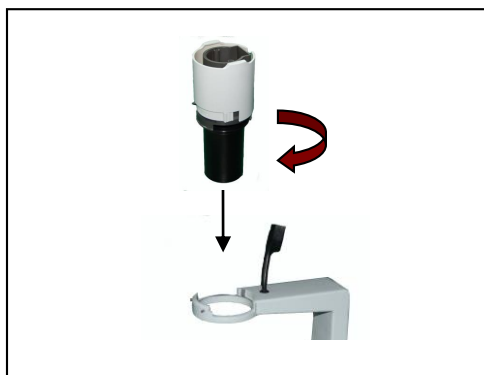

Fig 3
2.2.3 Installing condenser set (fig3)
Install the condenser into the right direction (fig3).